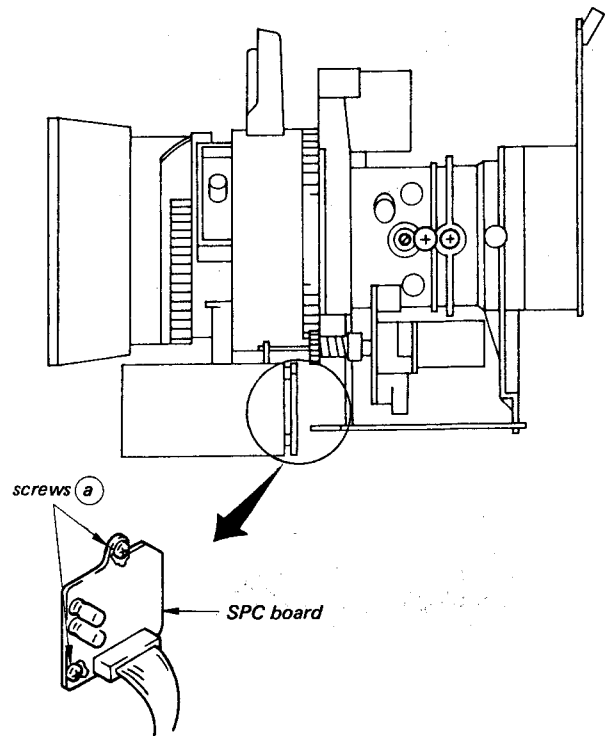

Fig. 1-32
- 3) Loosen two screws (a). (See Fig. 1-32.)